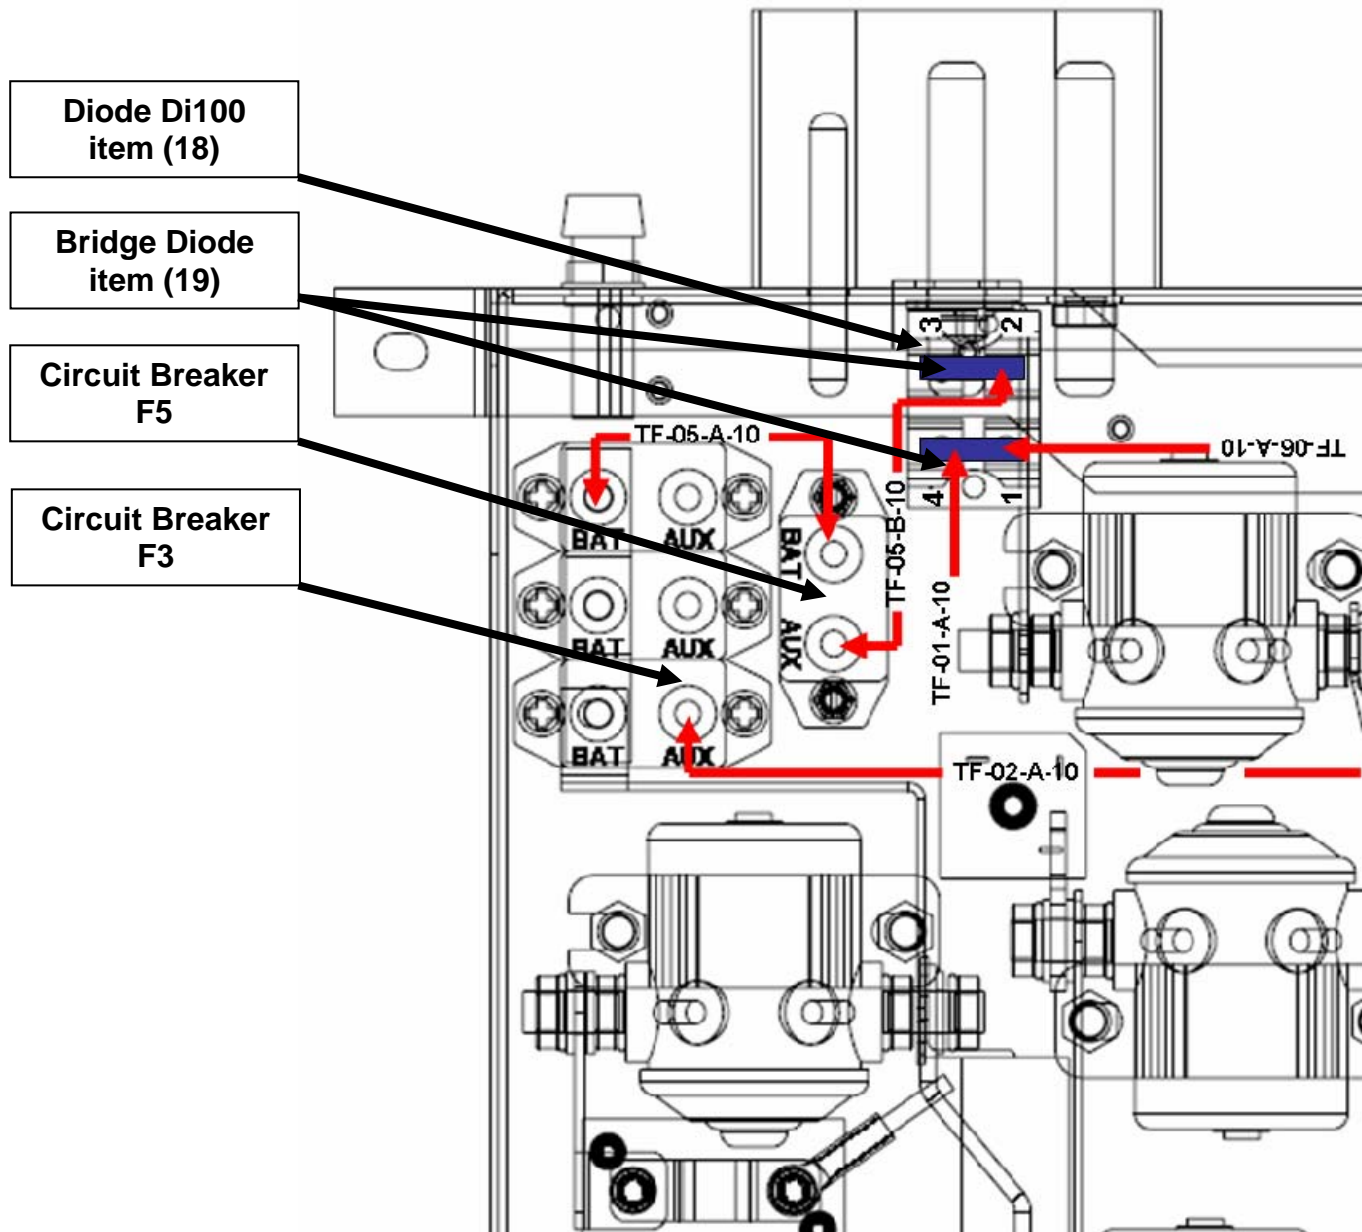

Figure 4 Power Junction Box (with internal GPC) after modification
6. Modification of Power Junction Box with internal Glow Plug Control (GPC) Cessna Model 172 R,S (see figure 4)
- Install new diode (18) beneath the external power plug
- Fasten diode with two screws (32), two washers (9) and two nuts (10).
■ CAUTION: Washers (9) need to be positioned underneath the nuts (10)!
- Connect cable TF-02-A-10 (29) FADEC "B" to F3 (J-Box) and circuit breaker FADEC "B"(Cockpit).